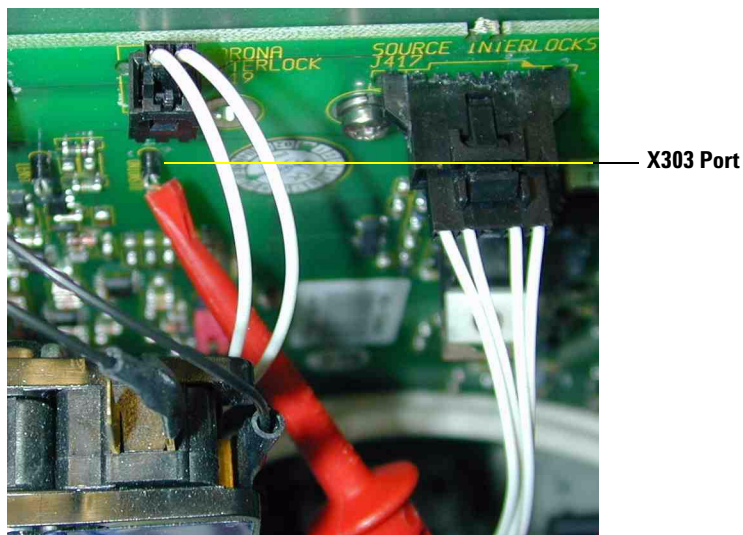

Figure 16 Connect the APPI cable to the X303 GELV board
- Carefully fasten the other end of the cable (red clip) to the port that is labeled **X303** on the GELV board (Lens Voltage Board). See Figure 16.